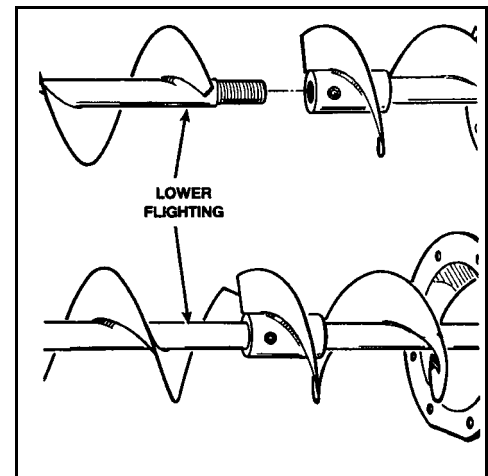

Figure 3.1
2. Connect the flighting by screwing the lower flight into the threaded pipe on upper flight until flight ends butt together and flighting spiral matches up (Figure 3.1).